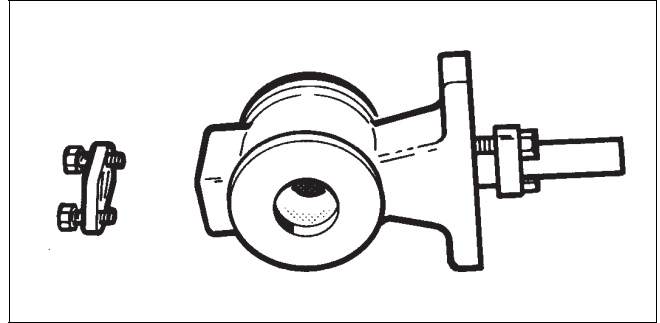

Fig. 12 Removing the blind flange
- In DN 25-40 valves (excluding the low-Cv versions), unfasten the flange (10) and push the segment into the back position (Fig. 12).